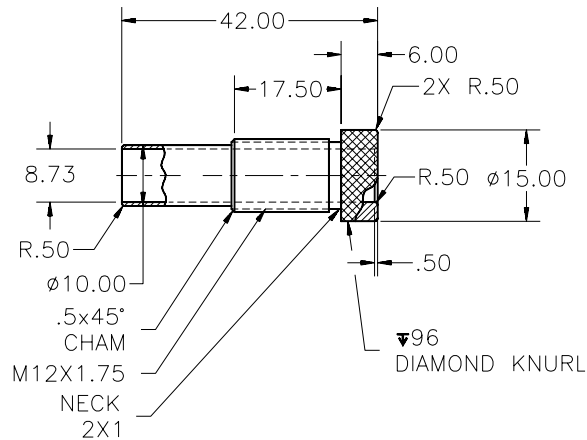
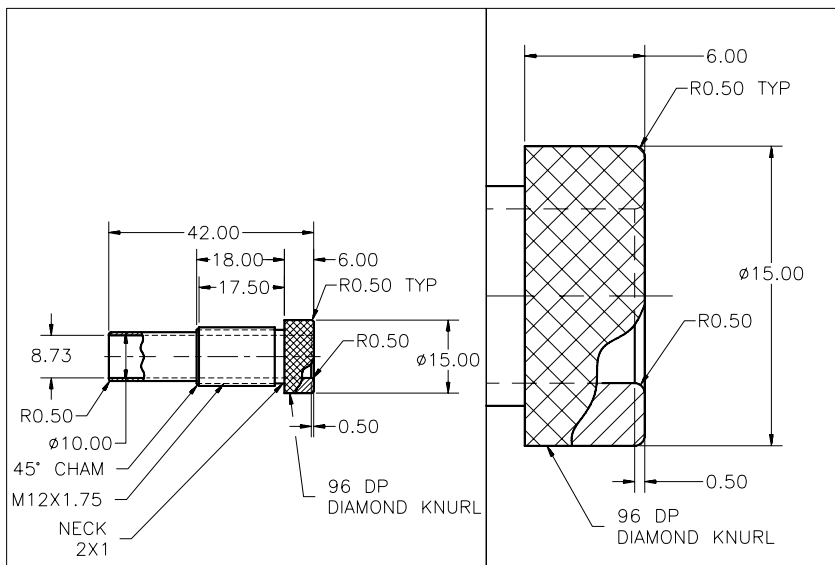

Figure 12-27 Model for Example 3
Figure 12-28 Displaying the drawing in two viewports
In this example, you will draw the object, as shown in Figure 12-27, and create the floating viewports, as shown in Figure 12-28. The left viewport has a scale of $3/8" = 1'-0"$ and the right viewport has a scale of $1-1/2" = 1'-0"$. All the annotations that are created in the model space should be displayed with a text height of 0.08" on the sheet even if the same annotation appears in multiple viewports.
1. Start a new file in the **2D Drafting & Annotation** workspace, and draw the object, as shown in Figure 12-27.
4. Create an annotative dimension style with the values given next and draw the dimensions refer to Figure 12-27.
5. Create an annotative multileader style with the values given next and draw the multileaders, refer to Figure 12-27.
8. Select the annotations from the right of the object and adjust their locations with the help of grips, such that the placement of dimensions remains similar to the one shown in Figure 12-27. Notice that when you select the annotation object, its different scale representations are displayed with faded dashed lines.
15. Similarly, activate the viewport to the right and set its annotation scale to $1-1/2"=1'-0"$. Pan the view so that it looks similar to Figure 12-28.